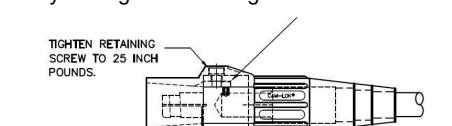

Figure 11
- Make sure retaining screw is tight. (See Fig 11)